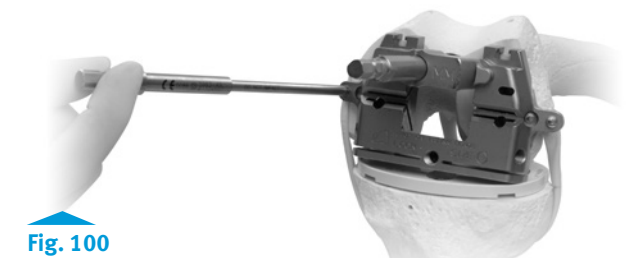

Fig. 100
- If the position is satisfactory, insert two Hex-head Screws to secure the 4-in-1 Femoral Cutting Block to the distal femur (**Fig. 100**). Then proceed to “Step 6: Finish Femur.”